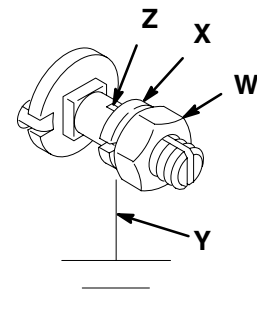

Fig. 2
**To ground the pump,** loosen the grounding lug locknut (W) and washer (X). Insert one end of a 12-ga (1.5 mm 2) minimum ground wire (Y) into the slot in the lug (Z), and tighten the locknut securely. Connect the other end of the wire to a true earth ground. See Fig. 2. *To order a ground wire and clamp, order Part No. 222011.*